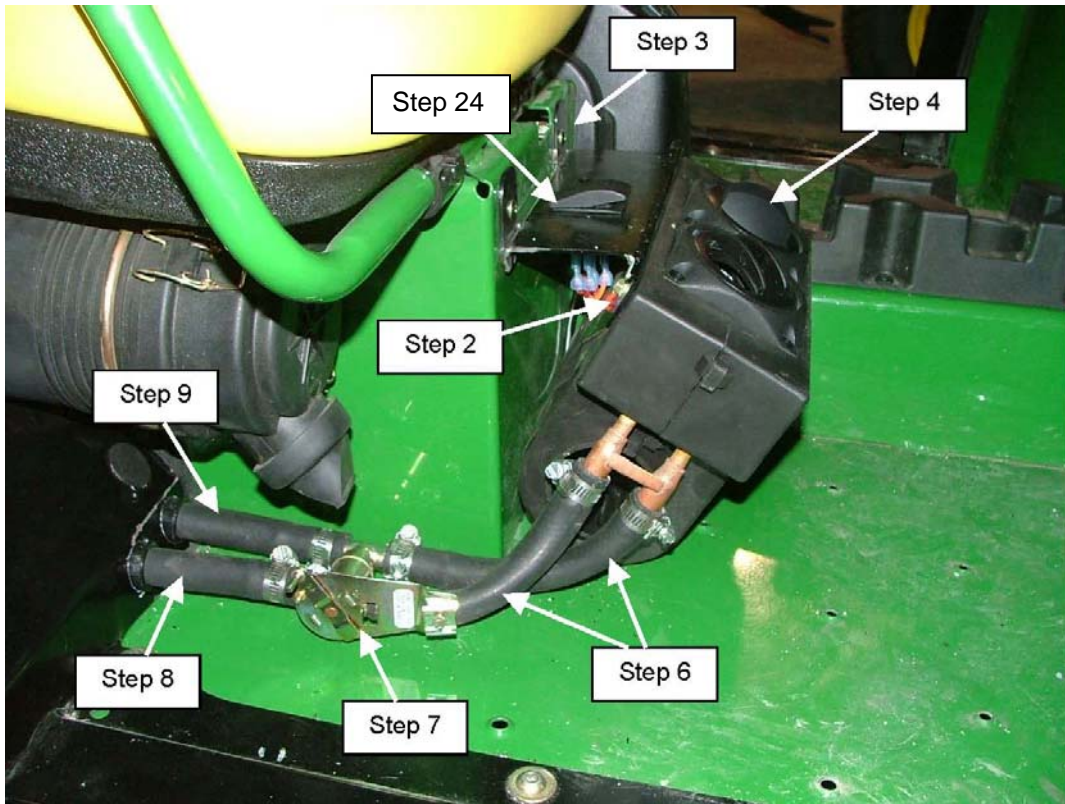

Figure 1
2. Mount the bracket to the heater unit and secure using (3) ¼-20unc X ¾" self-tapping screws
3. Place heater unit against passenger side seat base area. Locate bracket 1" from outer edge of seat panel. Match drill (2) 3/16" diameter holes. Secure using (2) ¼-20unc X ¾" self-tapping screws.
4. Install (2) louvers into the heater unit. See Figure 1.
24. Install the rocker switch with the wire harness into the rectangular hole of the heater unit mount bracket. See Figure 1.